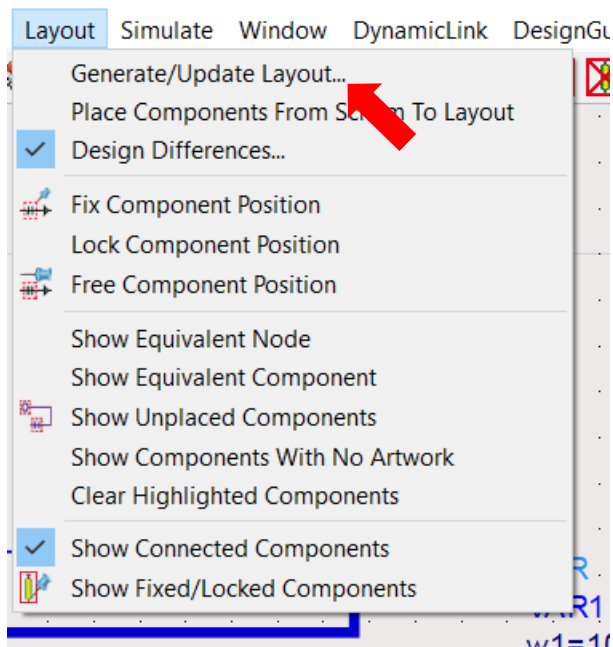

Figure 5. How to Open the Layout Tab
1. To generate the layout of your schematic from the schematic window, go to **Layout > General/Update Layout**, as shown in Figure 5. Click **OK** on the next screen that appears.